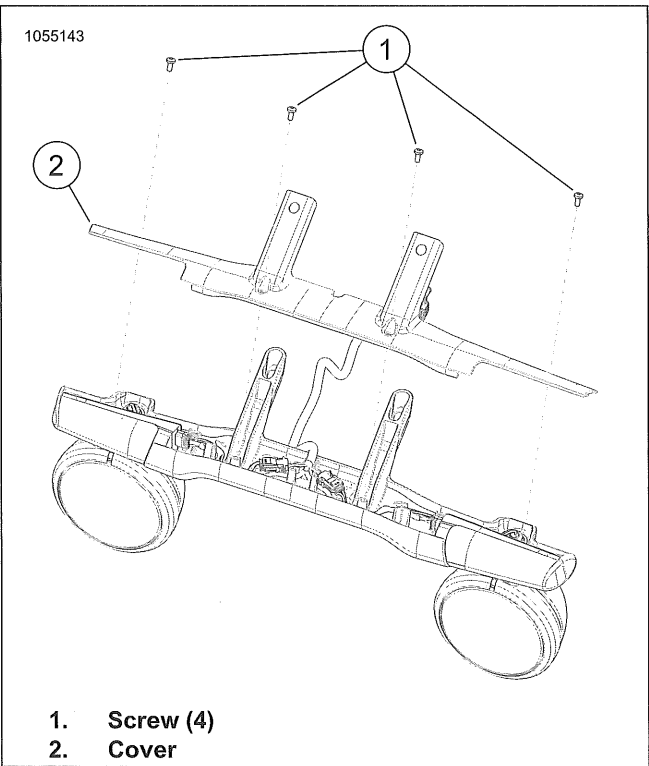

Figure 7-69. Lightbar Cover
- 3. See Figure 7-69. Remove screws (1).
- 4. Remove cover (2).
4. See Figure 7-69. Install cover (2).
5. Install screws (1). Tighten.